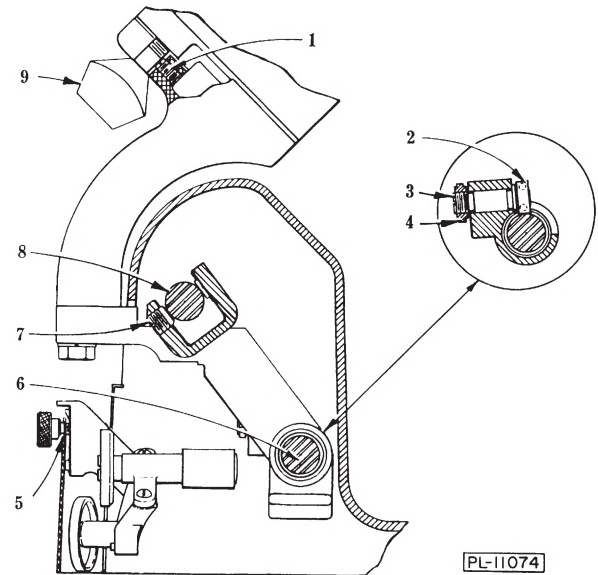

Fig. 5
This machine is furnished with a Hobart "Stay-Sharp" stainless steel knife. It should be sharpened only when necessary. When not in use, hang the sharpening unit in the notch (5, Fig. 5) of the side panel. Use the thumb screw to secure the sharpener in position on the inside of the machine. The following sharpening procedure is recommended:
8.1 Turning the adjusting screw (7, Fig. 5) will regulate the amount of looseness (or play) in the carriage. This set screw changes the clearance between the "Rulon" plugs and the upper slide rod. **NOTE:** Excessive tightening will cause needless friction on the upper slide rod.
8.2 To adjust the eccentric stud & brg. sub-assy. on the lower slide rod, loosen the locking nut (4, Fig. 5), then turn the eccentric stud (3, Fig. 5) to suit. A proper setting may be reached by turning the eccentric to a tight (or drag) position, then loosening so that outer race of ball bearing (2, Fig. 5) still turns on the lower slide rod, but with a minimum of bearing pressure. Excessive drag will be noted at the carriage if the bearing is overly tightened. When properly adjusted, the carriage is free to glide on slide rods. Over a period of time it may be necessary to re-adjust bearing and/or rotate the slide rod to eliminate the effect of any flat on the rod.
The carriage tray assembly can be taken off as a unit by loosening the thumb screw (9, Fig. 5) and sliding the assembly out of the "V" support. Care should be used in order to prevent the tray from striking and damaging the knife edge. The carriage tray knife clearance may be changed by adjusting the self-locking set screw (1, Fig. 5) to suit.
Very little lubrication is needed. Both the upper (8, Fig. 5) and lower (6, Fig. 5) slide rods are to be lubricated. Use a few drops of oil (Texas "Havoline" or equiv.) weekly on these slide rods.